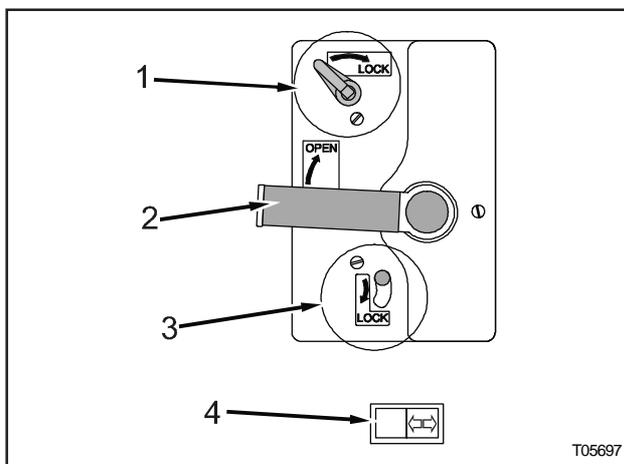

Figure 37: Interior entrance door controls
The interior entrance door handle is equipped with two locking levers (see Figure 37). The upper lever (1) controls the deadbolt locking system, the lower lever (3) locks/unlocks door handle (2).